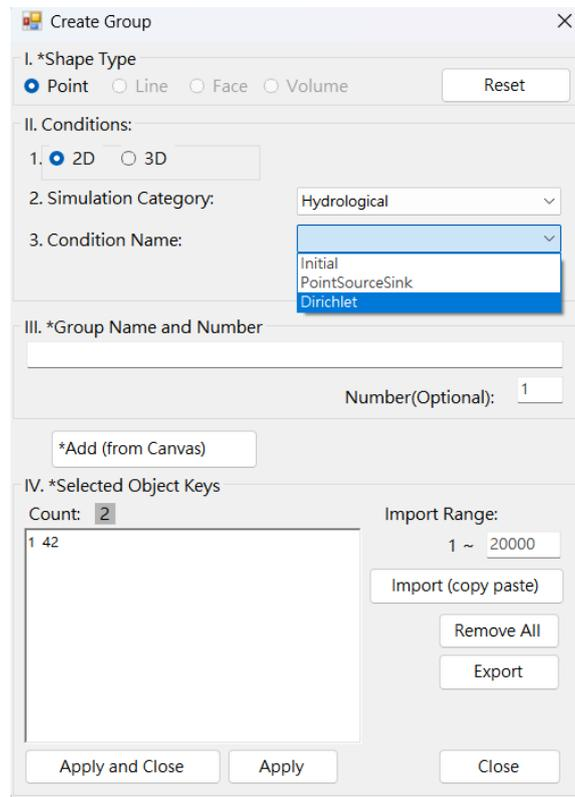

Figure 1.29. Create Group window for setting Dirichlet boundary condition.
29. The process of setting the Dirichlet boundary condition is very similar to the process of setting the initial condition in step 18. The only difference is that in step 14, you should select 'Dirichlet' for '3. Condition Name:' as shown in Figure 1.29.